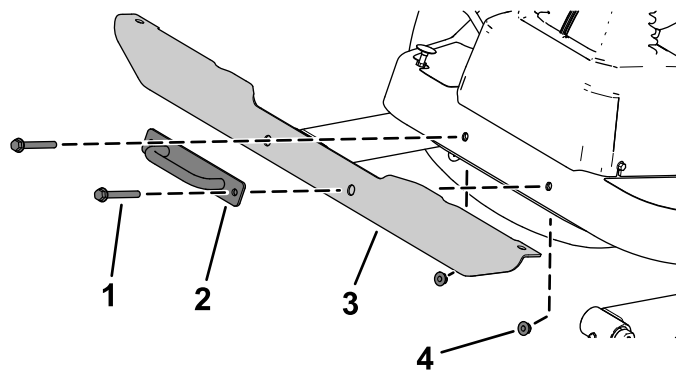

**Figure 11**
- 1. Remove the tie-down bracket from the platform (Figure 11).